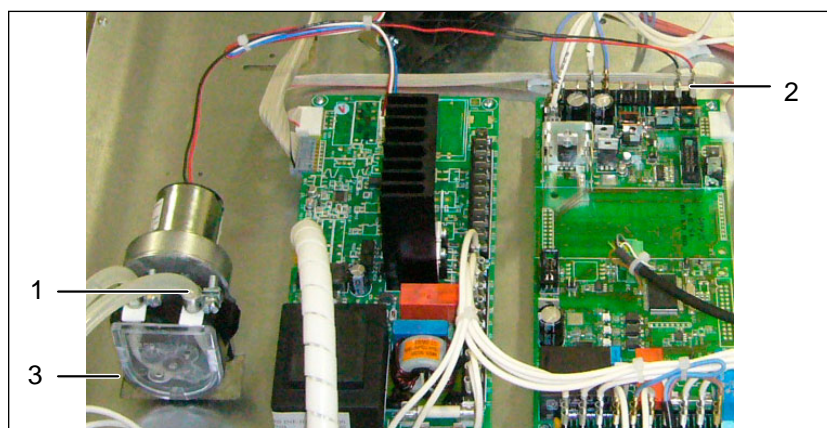

Fig. 30 Replacing the pump
3. Release the two tube connections on the pump (Fig. 30, 1).
4. Pull off the plug connector from the control module (2).
5. Undo the screw connection of the pump (3) to the ground plate (2 screws) and remove the pump.